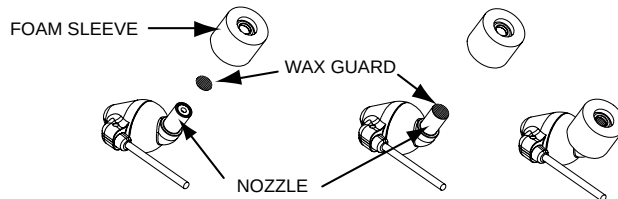

FIGURE 2: E2 Wax Guard Installation
- *E2: Routinely check the wax guard on the tips of the nozzles (see figure 2 on page 8). If the wax guards appear to be clogged, replace them.*